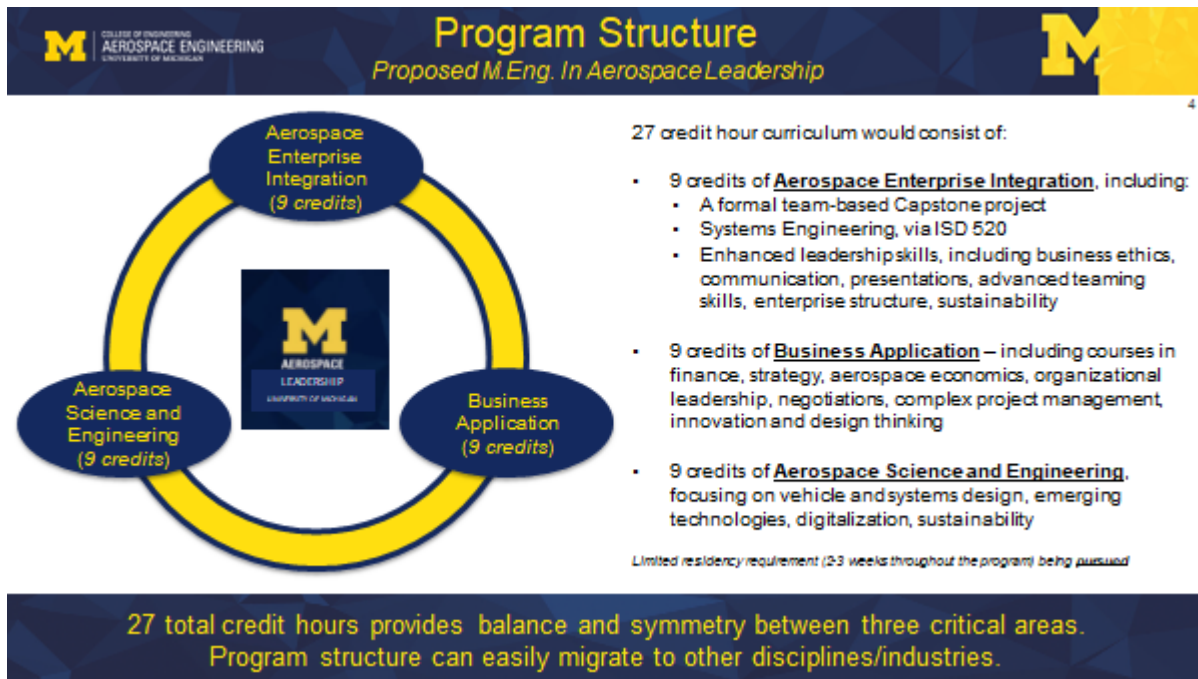

Figure A-1 – Three Pillars of the M.Eng. in Aerospace Leadership Program
As outlined in figure A-1, below, and Appendix I, there three (3) main pillars of the program, each of which comprises nine (9) credits hours:
As shown in Figure A-1, the 27-credit program is divided the following three (3) pillars: